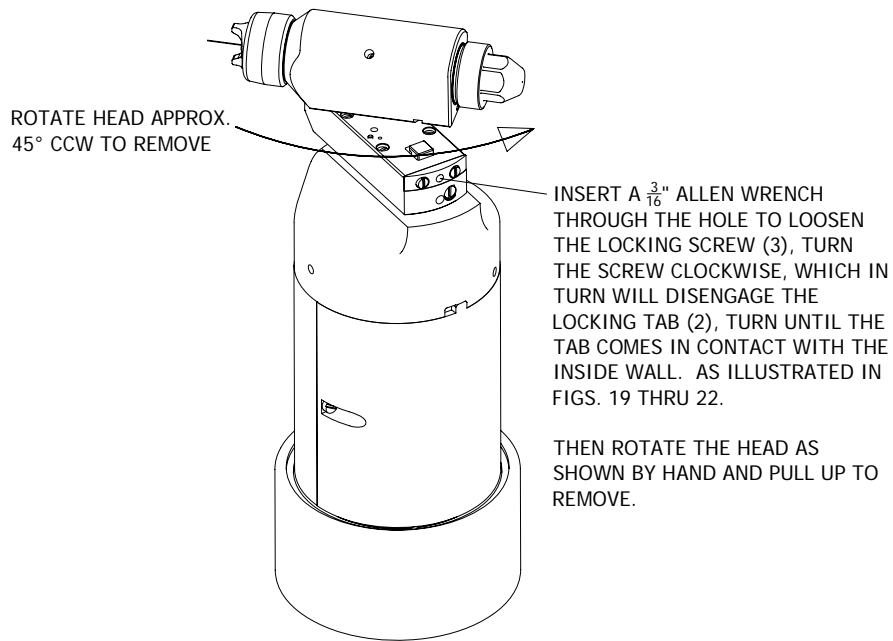

Figure 9a: Spray Head Removal
### **Applicator Cleaning/Service (See Figure 9a and 9b)**
The spray head can be removed from assembly as shown in Figure 9a for cleaning and service.
16. Secure with locking tab by turning screw counter-clockwise (see Figure 9a).